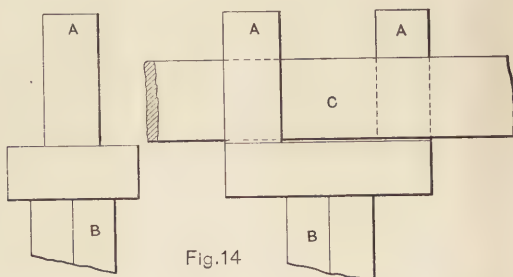

Fig. 14
**Bending Fork.**—In Fig. 14 is a side and edge view of a smith's bending fork, a very handy tool and one easily made. It has a square shank *B* to fit in the anvil and two round prongs *A A* by which the bending is accomplished. A flat bar *C* is shown between the prongs in the right position for bending.